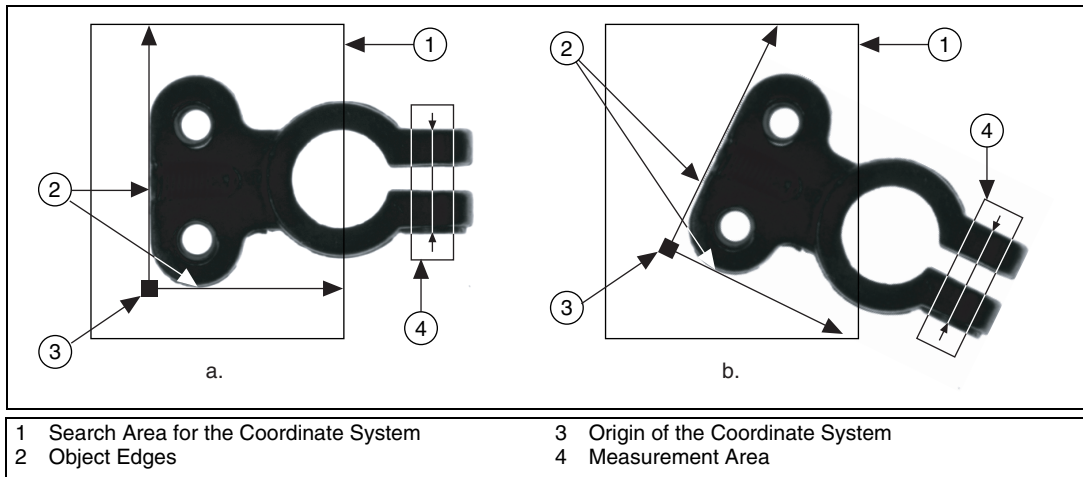

Figure 5-2. Coordinate Systems of a Reference Image and Inspection Image
- a. If you use `imaqFindTransformRect2()`, specify one rectangular ROI that includes part of two straight, nonparallel boundaries of the object, as shown in Figure 5-2. This rectangular region must be large enough to include these boundaries in all the images you want to inspect.